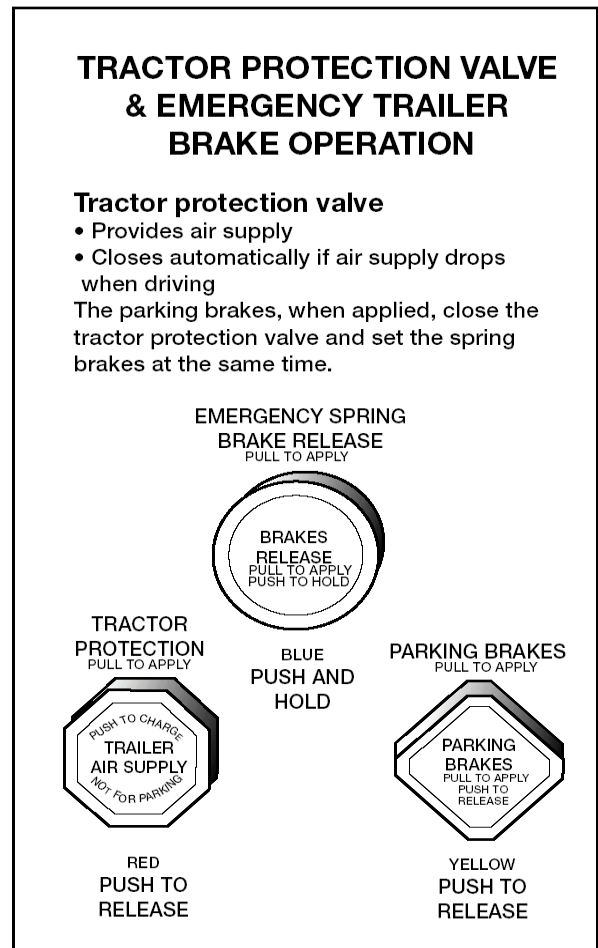

Figure 5.3
**Dual Parking Control Valves.** When main air pressure is lost, the spring brakes come on. Some vehicles, such as buses, have a separate air tank, which can be used to release the spring brakes. This is so you can move the vehicle in an emergency. One of the valves is a push-pull type and is used to put on the spring brakes for parking. The other valve is spring loaded in the "out" position. When you push the control in, air from the separate air tank releases the spring brakes so you can move. When you release the button, the spring brakes come on again. There is only enough air in the separate tank to do this a few times. Therefore, plan carefully when moving. Otherwise, you may be stopped in a dangerous location when the separate air supply runs out. See Figure 5.3.